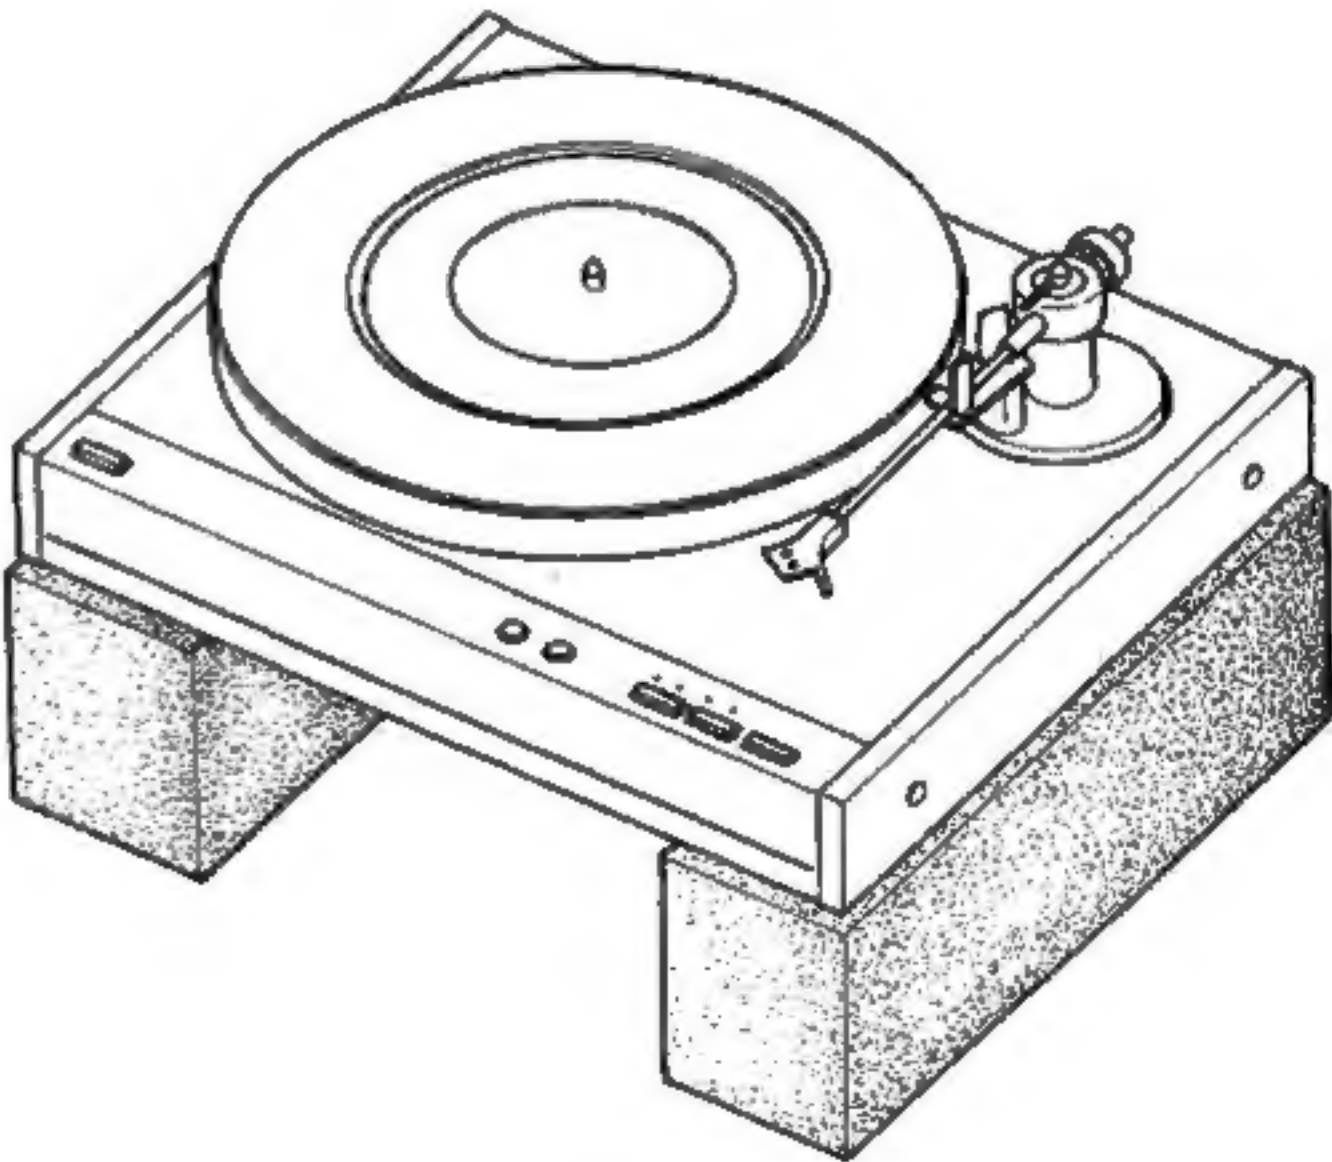

Figure-3
- 2. Put the unit on stands as shown in figure-3. (This is to gain access to the control PWB.)